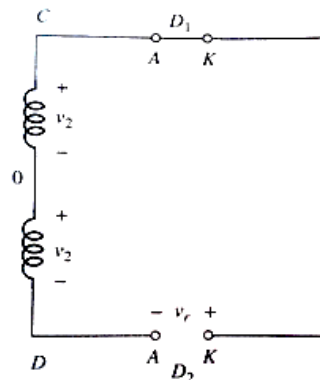

Fig.1.19: Equivalent circuit to find Peak Inverse Voltage
- Applying KVL to the circuit in Fig.1.19, we get,  $v_2 + v_2 - v_r = 0$  where  $v_2 = V_m \sin \omega t$